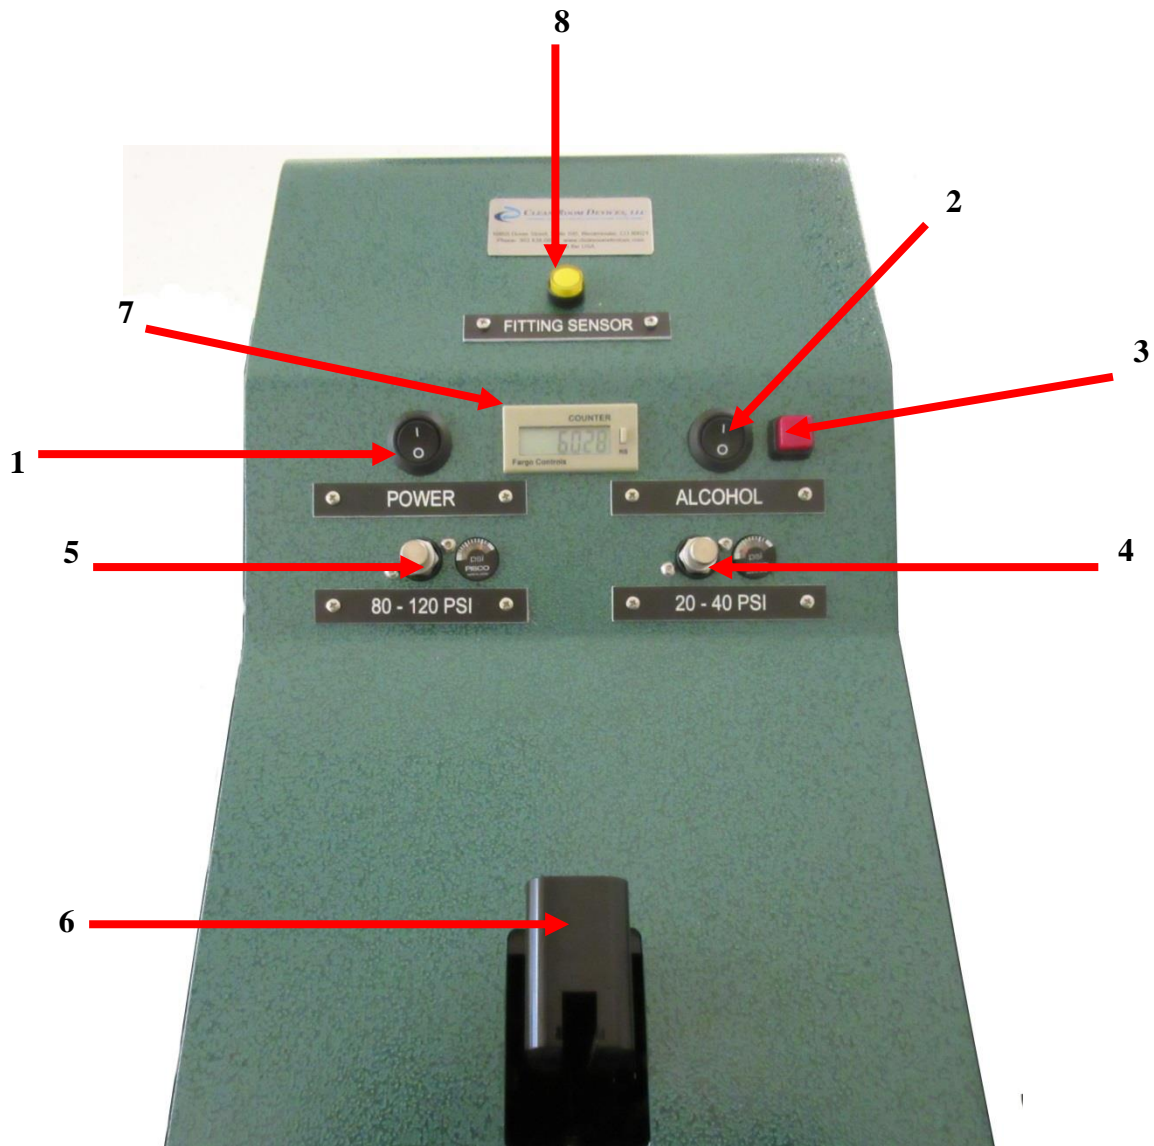

Figure 2.2.2
- Adjust low pressure regulator between 20-30 psi. *Figure 2.2.2*
- Adjust high pressure regulator between 80-100 psi. *Figure 2.2.2*